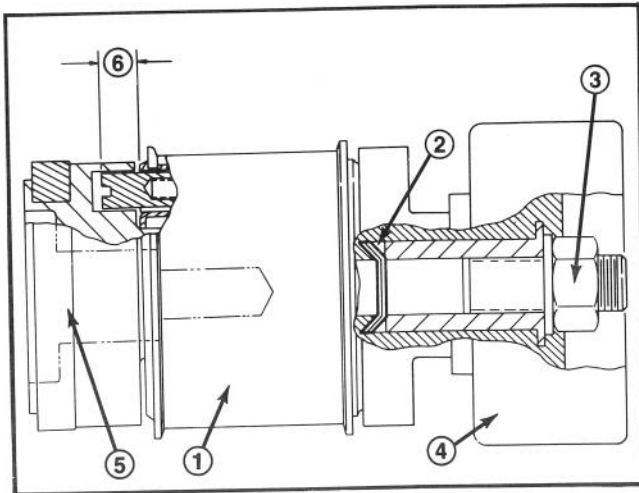

Figure 15
**IMPORTANT:** If the clutch mechanism has come apart since the nut and washer were removed in step 10A be sure that the belleville washers are installed as shown in (Fig. 15).